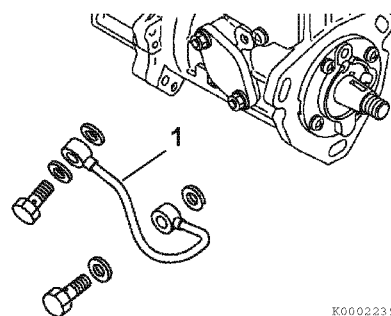

Figure 7-14
12. Remove the lube oil line (**Figure 7-14, (1)**) from the fuel injection pump and cylinder block.